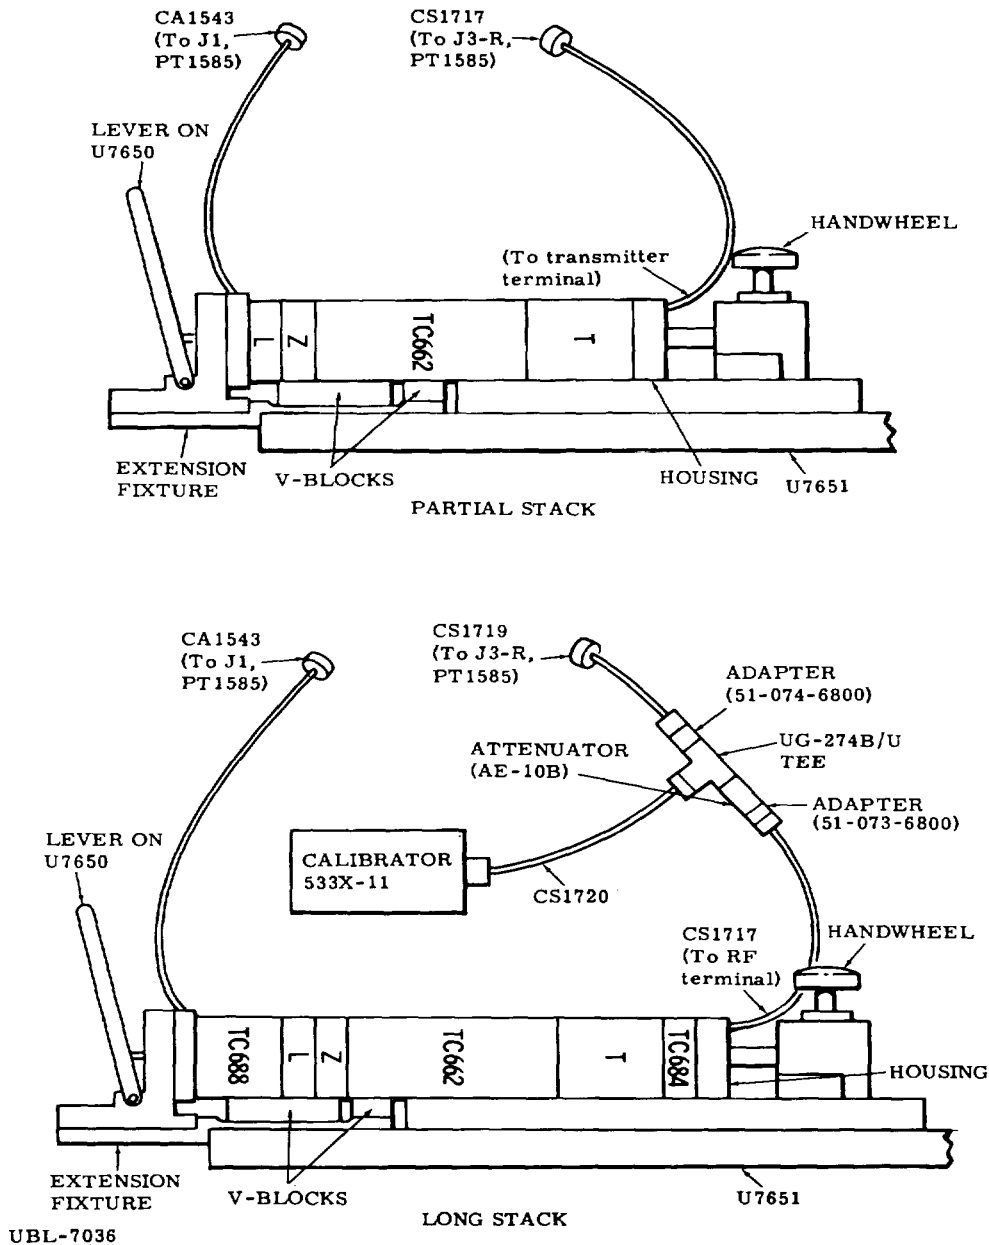

Figure 4-3Z. Test Setup for MA139 Seismic EDIT (G).
**Code plug markings are in the form: 100-51-00-1-1 The first 3 digits are RF channel code; the next pair are ID's. In this example, 51 is the seismic ID and 01 is the engine detector ID, as shown in table 48C. The next 2 digits (00) are sensor function.**
d. Starting at left end of partial stack shown in figure 4-3Z, place first module in U7651 tray so that male pins are at left. Similarly place remaining modules in tray; align marks and key and keyways in modules.
e. Feed right angle connector ends of cables shown in figure 4-3R through housing, connect cables to transmitter and PT1585 (figure 4-3Z), and position housing on fixture.
a. Position TC688 and TC684 modules as shown in figure 4-3Z for long stack test as necessary to align marks and keys and keyways in modules. Feed CS1717 cable through housing as indicated in figure 4-3R and connect it to RF terminal of TC684.
d. Insure that calibrator is turned off; and assemble remaining components as shown in figure 4-3Z.